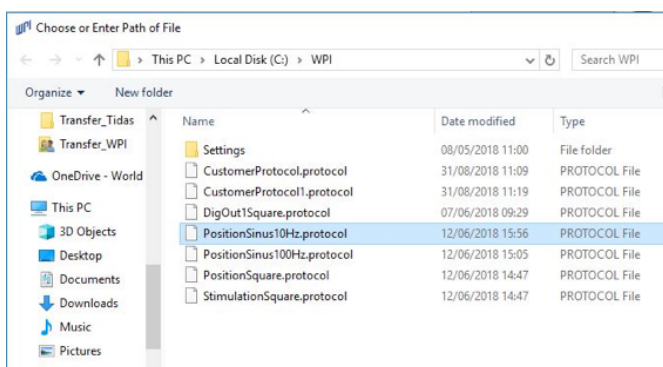

Fig. 48—Choose the location where the protocol is located and press OK.
2. On the next window (Fig. 48), navigate to the appropriate directory and select the position protocol needed in the experiment. Click **OK** to activate the selected protocol.
1. Select the stimulation protocol, if any, to be used during the recording. Select **Load Stimulation Protocol** from the **Protocols** pull down menu (right). The *Choose or Enter Path of File* window appears (Fig. 48).
1. Load any analog output protocols that are needed during the recording. Select **Load OUT 3** from **Load Protocol** under **Protocols** pull down menu (right). The **Choose or Enter Path of File** window appears (Fig. 48).